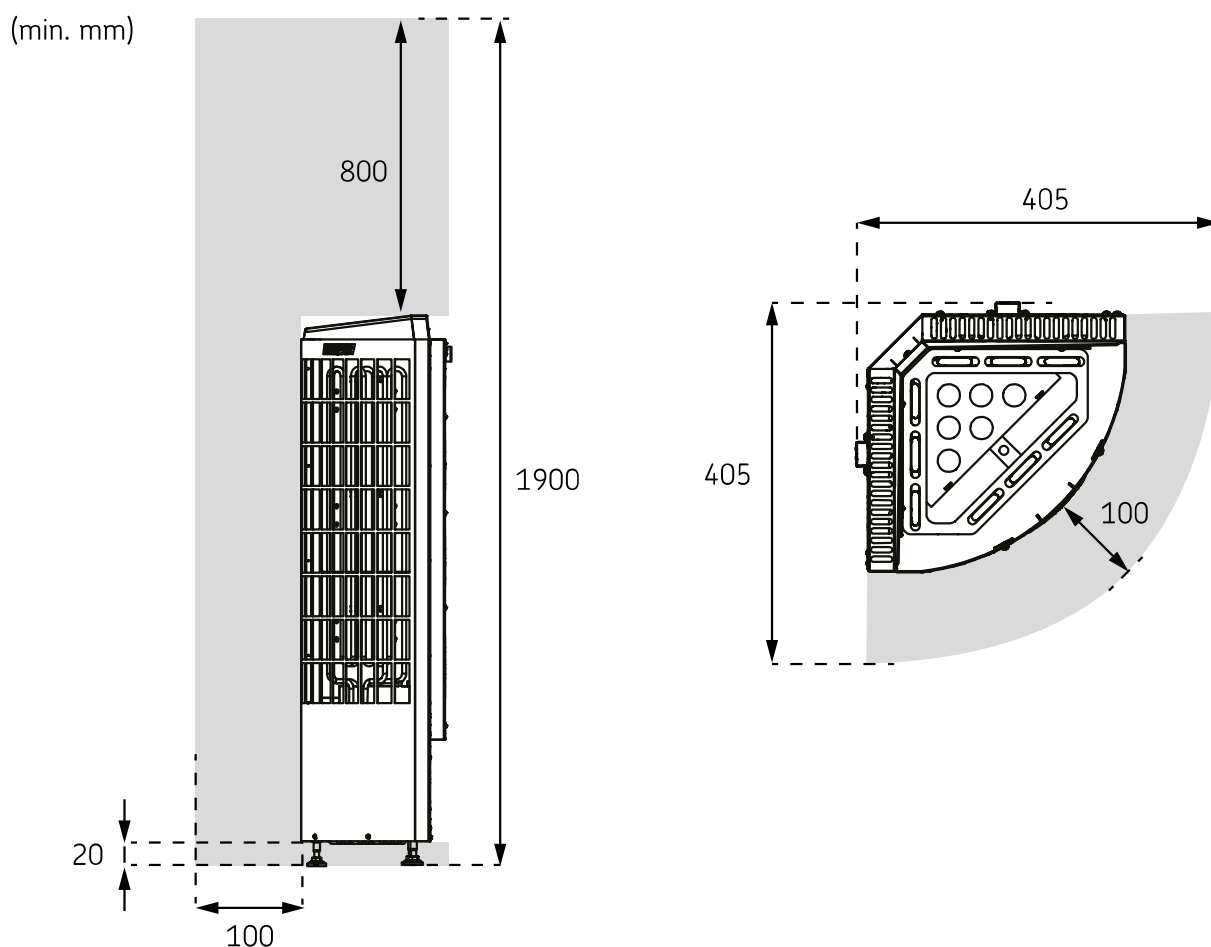

Figure 1. Safety distances
- Minimum protective distances to combustible material are shown in figure (>> Figure 1. Safety distances).
- If a guardrail is installed around the sauna heater, the safety distances given in figure (>> Figure 1. Safety distances) or in the installation instructions for the guardrail must be observed.